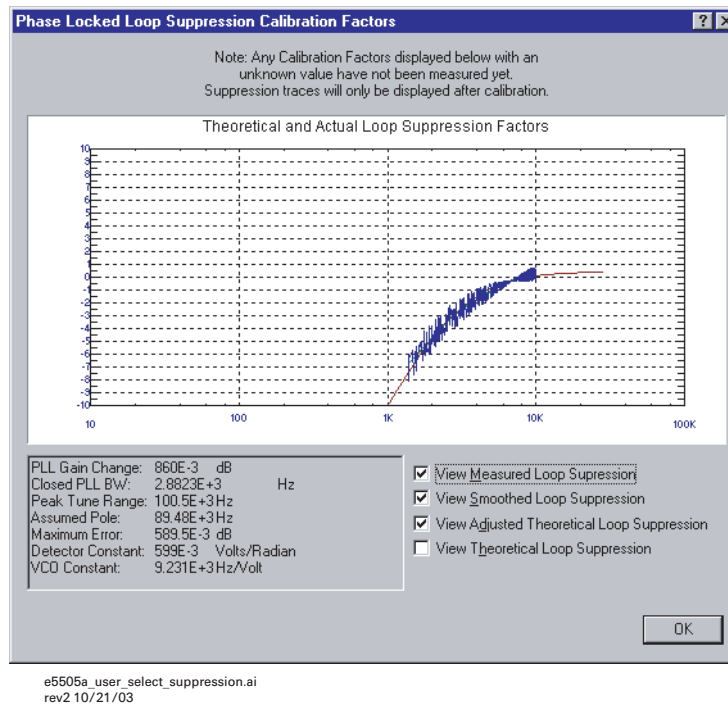

Figure 95 Selecting suppressions
- 2 When the PLL Suppression Curve dialog box appears, select View Measured Loop Suppression, View Smoothed Loop Suppression, and View Adjusted Loop Suppression See Figure 95 on page 141.